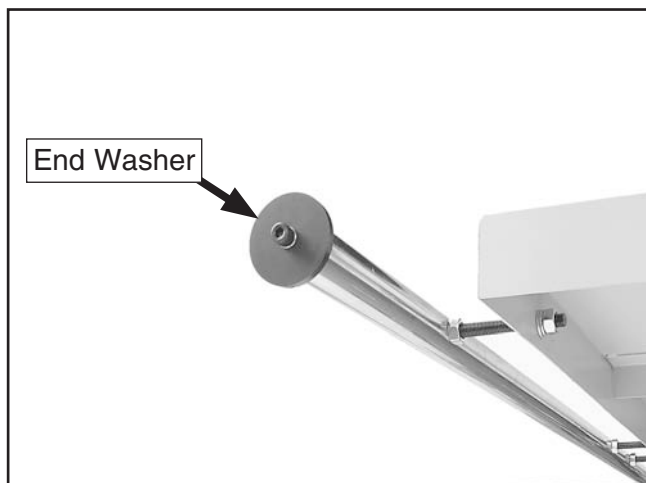

Figure 42. End washer on round rail.
36. Place the end washer (**Figure 42**) on the end of the round rail and secure it with the M8-1.25 x 16 cap screw and 8mm lock washer.